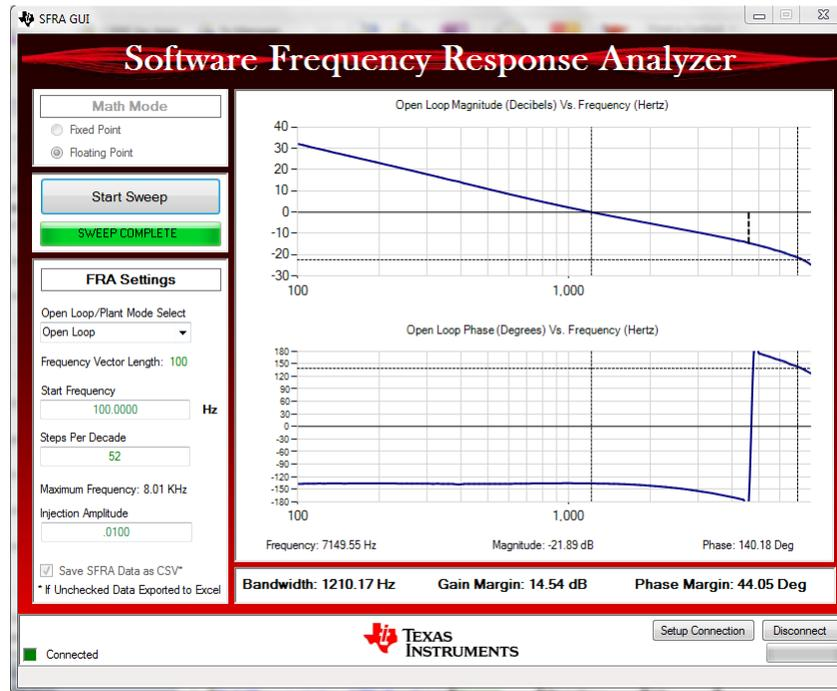

图 29. SFRA Run on Closed Current Loop
23. Once complete, a graph will open a loop plot, as shown in 图 29. This verifies that the designed compensator is stable.